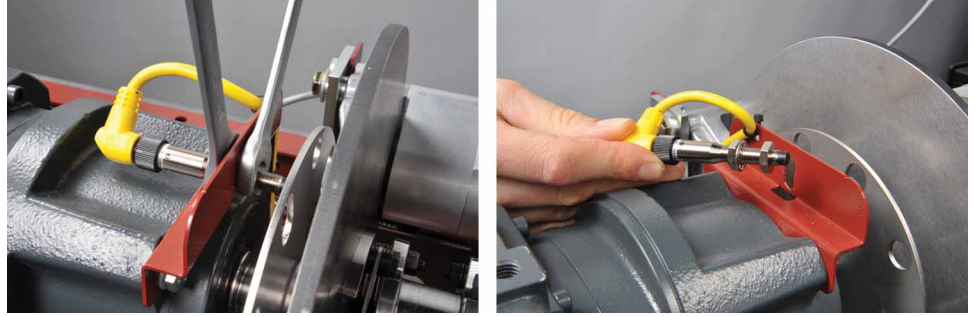

Figure 2-57. Removing the sensor on the disk brake.
43. Uninstall the inductive sensor (Figure 2-57) using a pair of 13 mm wrenches.